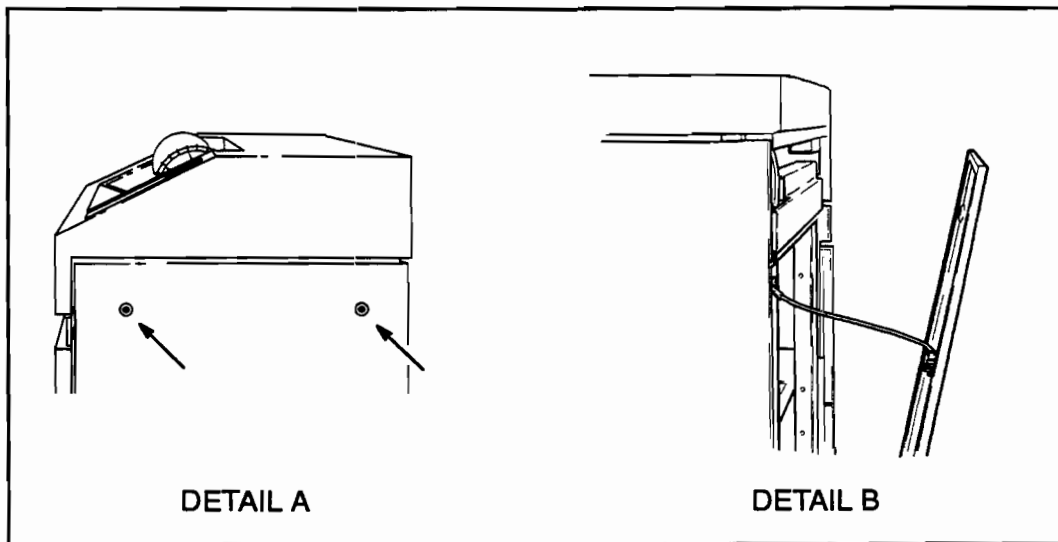

Figure 6-3. Left Side Cover Removal (Model 250/255 shown.)
2. Using a #2 Phillips screwdriver, remove the two side cover mounting screws. See Figure 6-3.
Figure 6-3 shows Model 250/255, but the Model 240D/E does not differ significantly.